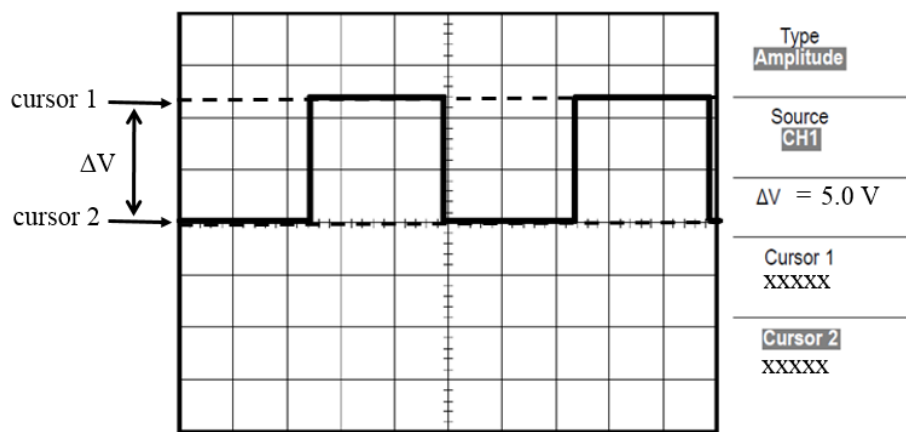

Figure E1.4 Measuring Amplitude
Measure the Peak-to-Peak amplitude of the test signal using Amplitude Cursors following the steps below (see Figure E1.4):
5. You can obtain the measured peak-to-peak amplitude, ΔV , of the signal in the Cursor Menu (refer to Figure E1.4). Record your measured Peak-to-Peak amplitude below: